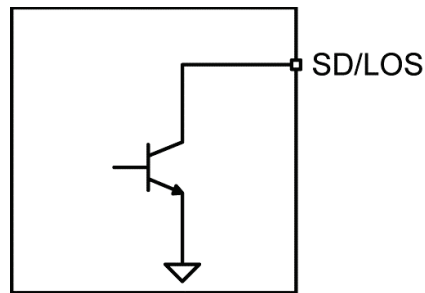

Figure 4. SD/LOS Output Structure
The SY88083L generates a user-selectable (SD/LOS\_SEL pin) signal detect (SD) or loss-of-signal (LOS) open-collector TTL output, as shown in Figure 4. LOS is used to determine whether the input amplitude is too small to be considered as a valid input. LOS asserts high if the input amplitude falls below the threshold set by